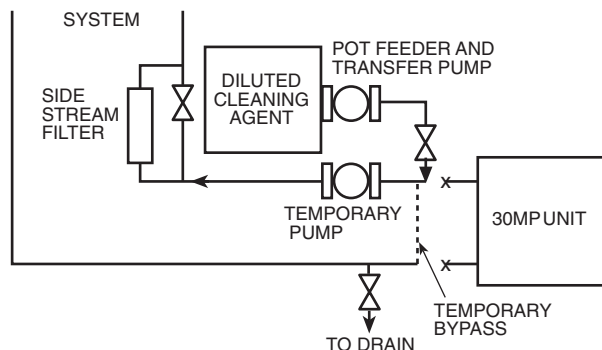

Fig. 16 — Cleaning Using a Side Stream Filter
- c. A side stream filter is recommended (see Fig. 16) during the cleaning process. Filter side flow rate should be enough to filter the entire water volume every 3 to 4 hours. Change filters as often as necessary during the cleaning process.